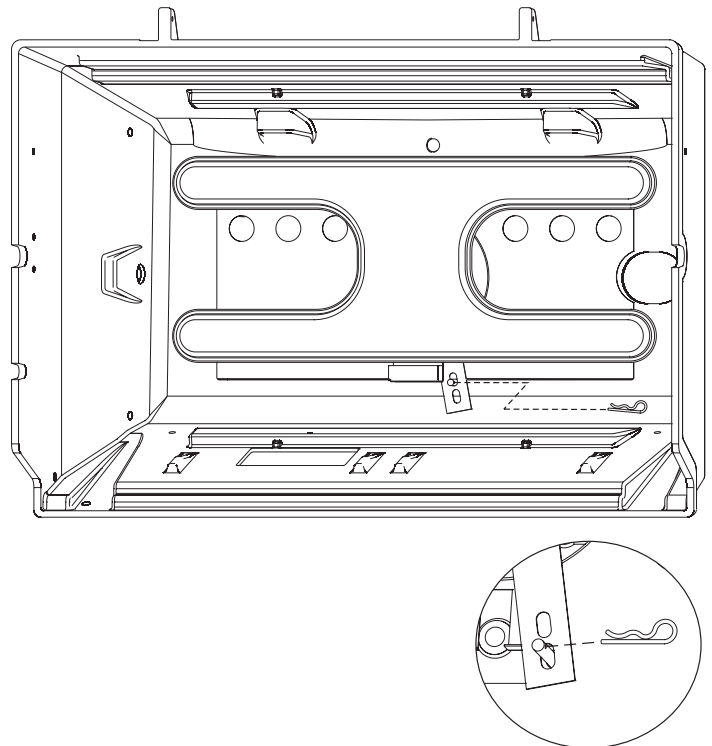

Figure 14
5. Slide the bridge pin through the hole in the 1/4-20 x 1 1/2 Phillips Truss Head Screw as shown in Figure 14.